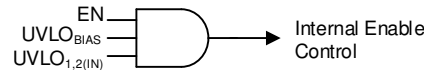

图 8-3. Simplified Turn-On Control
Controlling when a single power supply turns on can be difficult in a power distribution network (PDN) because of the high power levels inherent in a PDN, and the variations between the supplies. 图 8-3 and 表 8-2 show how the LDO turn-on and turn-off times are set by the enable circuit (EN) and undervoltage lockout circuits ( $UVLO_{1,2(IN)}$  and  $UVLO_{BIAS}$ ).